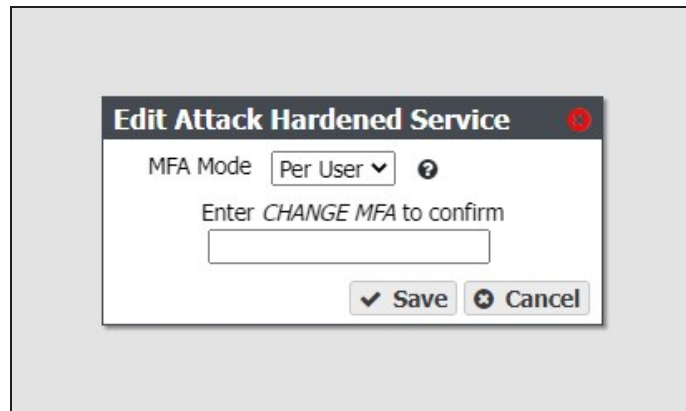

Figure 117 The Edit Attack Hardened Service dialog box.
2. Select the Attack Hardened service row, then select **Action > Edit**. The Edit Attack Hardened Service dialog box displays (see Figure 117 on page 190).